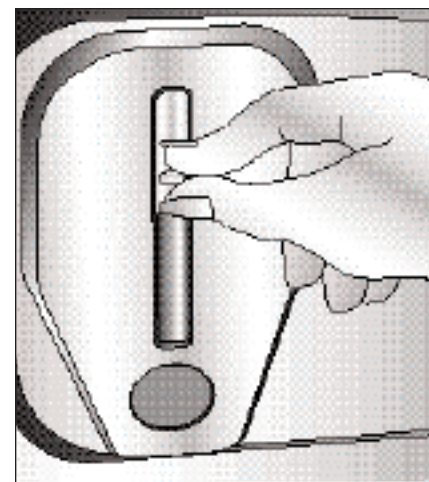

Figure 3
- 8) Move the slide indicator to the level of the liquid in the sight glass (figure 3). For your next load of laundry, just press and hold the “PUSH” button until the detergent moves down to the slide indicator to dispense detergent directly into the tub.